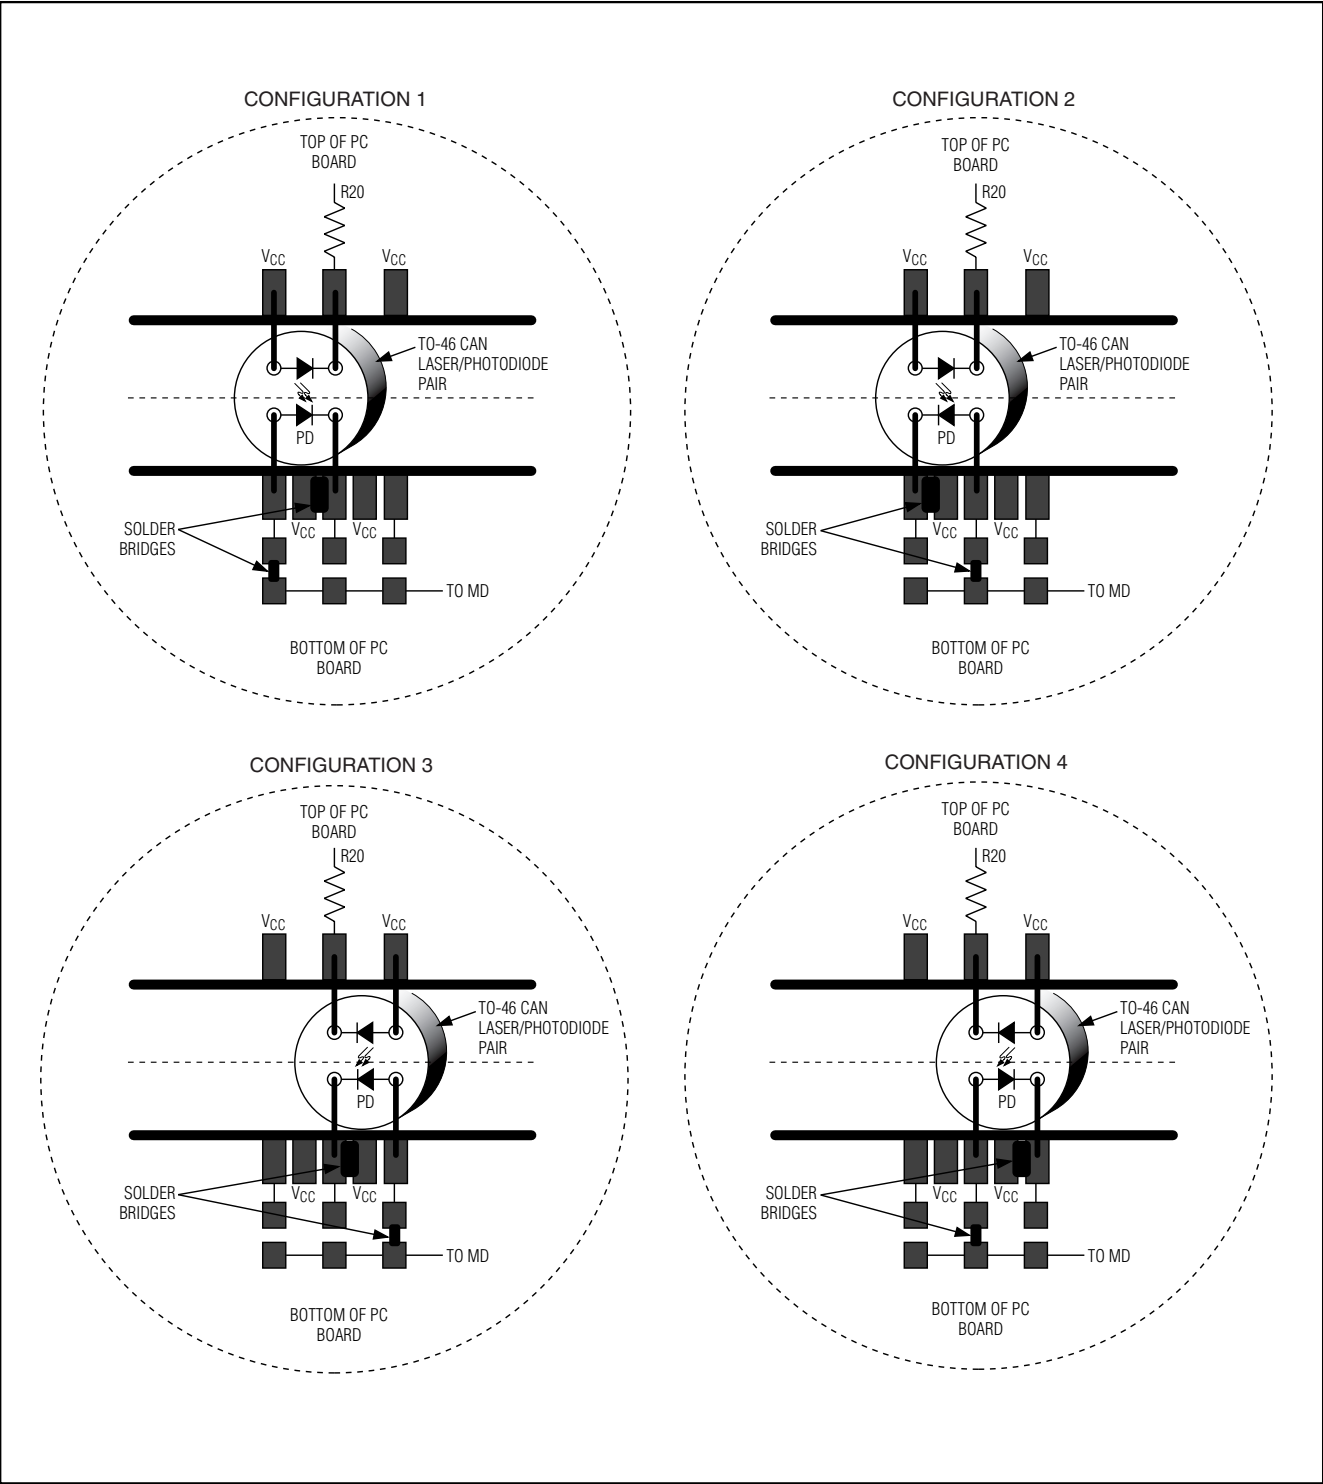

Figure 1. Attachment of Laser Diode/Monitor Diode to MAX3273 EV Kit
- 4) To enable the outputs, place a shunt across pin 2 (EN) and pin 3 (GND) of JU3.
- 5) The EV kit is designed to allow connection of a variety of possible laser/monitor diode pin configurations. Connect a TO-header style laser with monitor diode (Figure 1) as follows:
- Connect the monitor photodiode to two of the five pads on the bottom (solder) side of the PC board, directly below the laser diode pads. Three of these pads (the middle and outside positions) are initially not connected. The other two pads are connected to VCC. Solder the anode and cathode of the monitor photodiode to any two of the three pads that are not connected. Then connect the anode to the MD pin by shorting the corresponding solder jumper (Figure 1). Connect the cathode to VCC by using solder to bridge to an adjacent VCC pad.